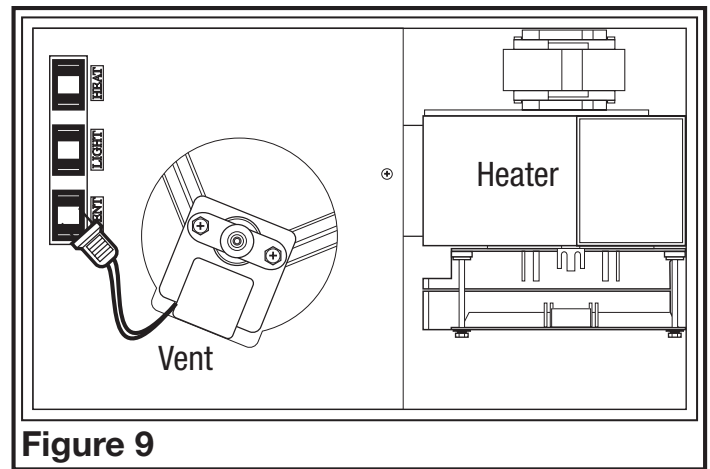
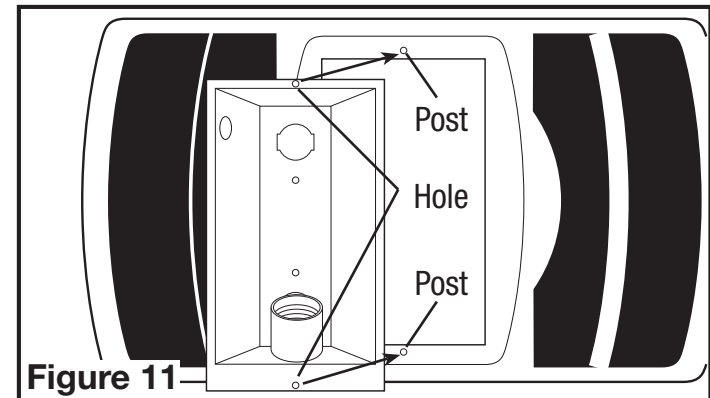

Figure 9
Figure 11
2. Insert the plug from the heating unit into the receptacle marked "HEAT", and the plug from the fan into the receptacle marked "VENT" (**Figure 9**).
4. Install light reflector into grill by lining up the posts on grill with the holes in light reflector (**Figure 11**). Raise light reflector and grill up to housing and insert plug from light into receptacle marked "LIGHT" (**Figure 9**).